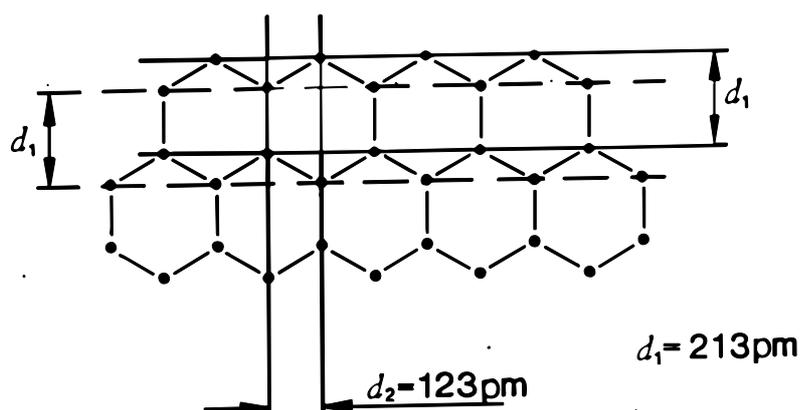

Fig.3. Graphite planes for first two interference rings
The two inner interference rings occur through the reflection from the lattice planes of spacing:  $d_1$ ,  $d_2$  (see Fig.3).
The observations of radii of the first order rings made for a set of acceleration (anode) voltages - i.e. different wavelengths of electron beam one can obtain two graphite planes spacing values :  $d_1$ ,  $d_2$  - Fig.3.
2. Compare established -  $d_1, d_2$  inter-planar spacings in graphite with literature data (see fig.3).